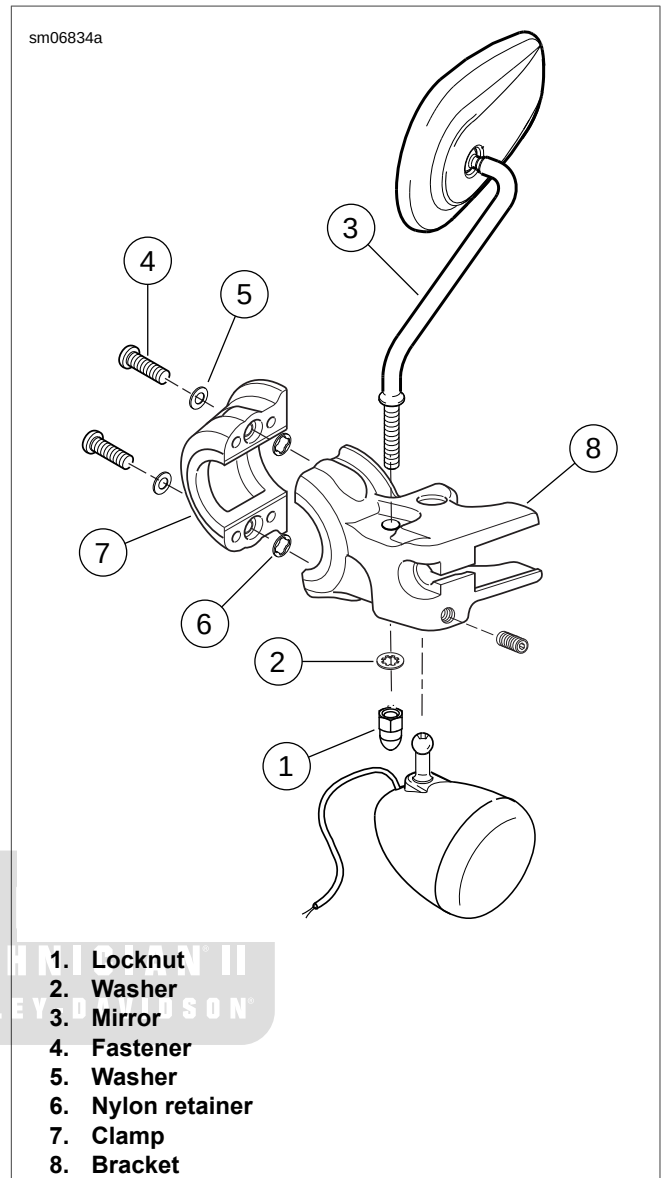

Figure 2-182. Clutch Hand Control Clamp and Bracket (typical)
2. See Figure 2-182. Loosen and remove the locknut (1), lockwasher (2) and mirror (3).
3. See Figure 2-182. Loosen the two screws (4) and washers (5) with nylon retainers (6) to remove the clutch control clamp (7).
4. Remove the clutch lever bracket (8).